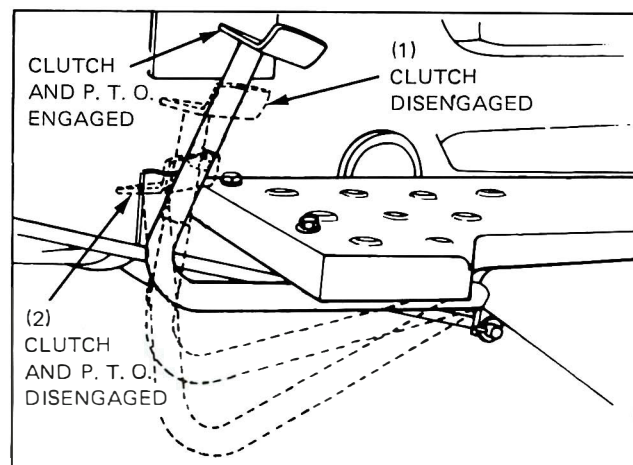

Figure 15 – Dual Clutch (Optional)
When the clutch pedal is depressed to position (1), Figure 15, the tractor movement stops while the P. T. O. shaft continues rotation (if the P. T. O. is engaged). If the pedal is depressed completely (2), both tractor and P. T. O. motion stop.